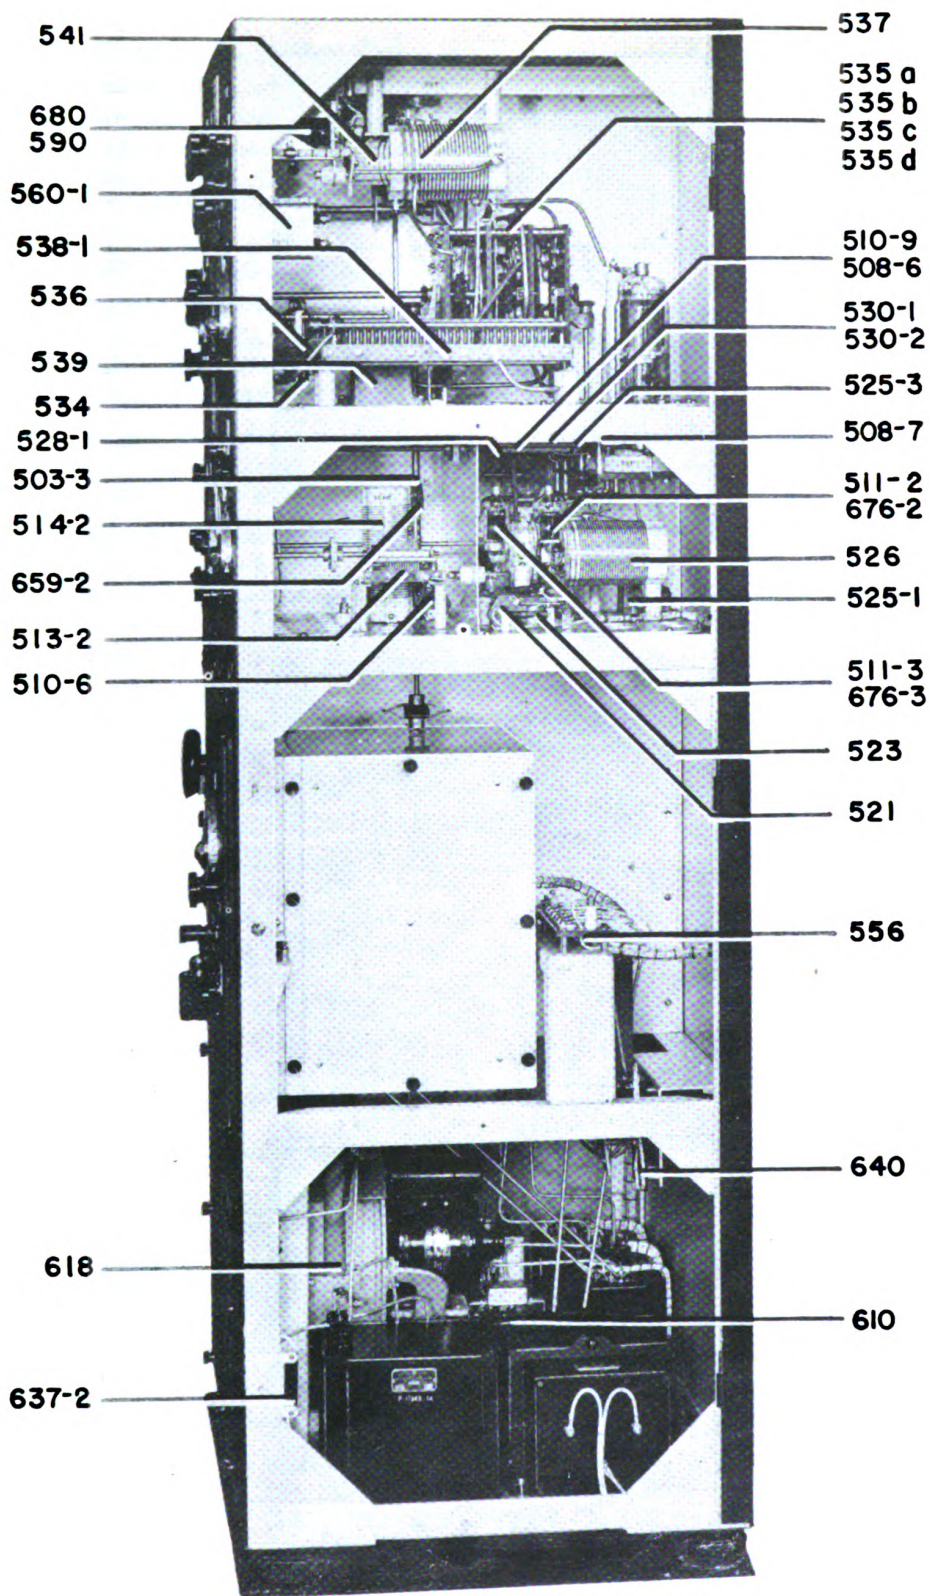

FIG. 13 RADIO TRANSMITTER BC-325-B, RIGHT SIDE INTERIOR VIEW
(2) The oscillator compartment shown in Fig. 13 is thermally insulated and temperature controlled to approximately 63°C. by heater elements 593-1, 593-2, 594-1 and 594-2 and thermostats 592-1 and 592-2. These heaters operate from 110 volts a.c. which is supplied from the terminal board 556 through the cable at the rear of the oscillator compartment. Heaters 593-1 and 593-2 have a combined capacity of 175 watts and are controlled by thermostat 592-2 which regulates at a temperature of approximately 63°C, while heaters 594-1 and 594-2 have a combined capacity of 700 watts and are controlled by thermostat 592-1 to regulate at approximately 45°C. The purpose of the latter two heaters is to rapidly heat the oscillator box. Because their controlling thermostat regulates at a temperature of approximately 45°C., these heaters do not operate when the box is at the required temperature of 63°C, the smaller heat capacity heaters with their thermostats regulating the compartment temperature at the latter value. A thermometer 595, the scale of which is located on the oscillator panel, gives visual indication of the internal box temperature. All crystal